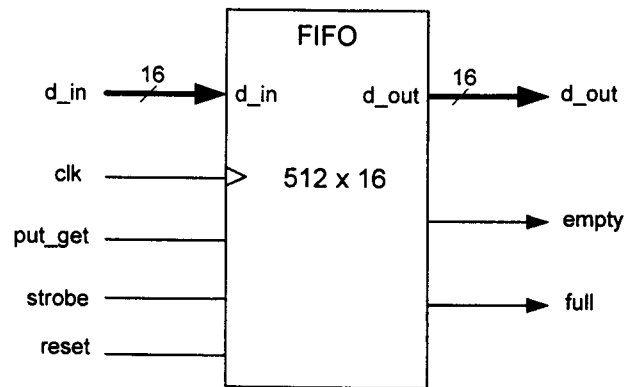

Figure 3.1
3. Figure 3.1 depicts a 512 x 16 bit synchronous first-in-first-out (FIFO) memory module that is implemented inside an Altera Flex10K FPGA device. All operations are synchronous to a system clock signal *clk*. On the rising edge of *clk*, input data *d_in* is stored in the FIFO if the *put_get* signal is high and output data is read out to *d_out* if *put_get* is low. Data words are read out in the same order that they are stored. If the number of data stored in the FIFO is 510 or higher, the signal *full* goes high. Similarly if the number of data stored is 2 or less, the signal *empty* goes high. The signal *reset* initializes the FIFO to an empty state. The FIFO is enabled by the *strobe* signal which goes high for one cycle when there is either a read or a write operation. You may assume that circuits external to the FIFO ensure that it never overflows or underflows.